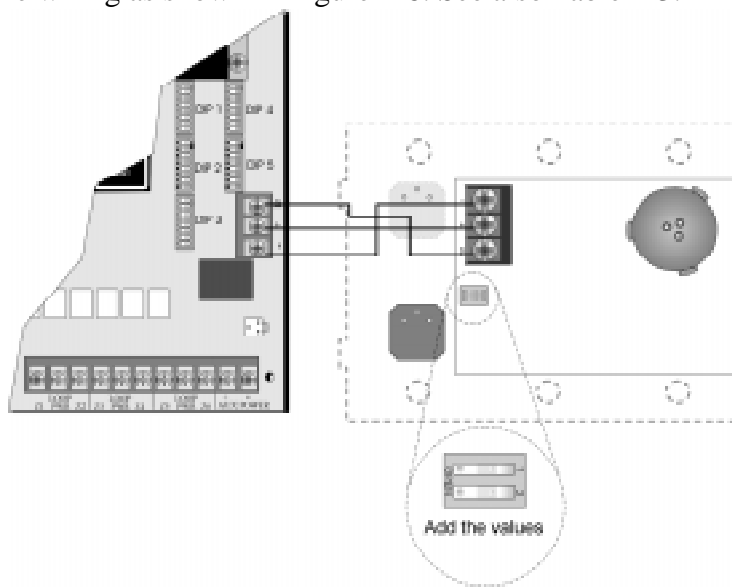

Figure 4-8 SK-2866 Connection to the SK-6324
3. Terminate the wiring as shown in Figure 4-8. See also Table 4-3.
The range of valid addresses is 0-3. Each device requires a unique address. Set the dip switches as shown in Table 4-4. See Figure 4-8 for dip switch location.
1. Make sure that the SK-2866 is properly wired to the control panel. See Figure 4-8.